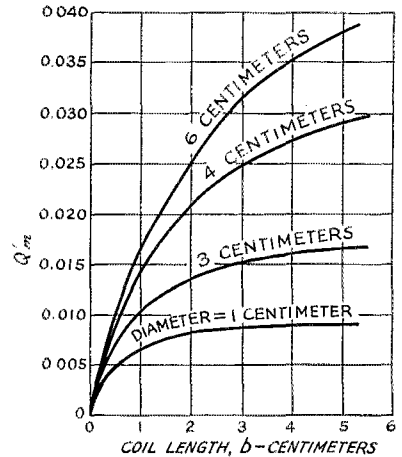
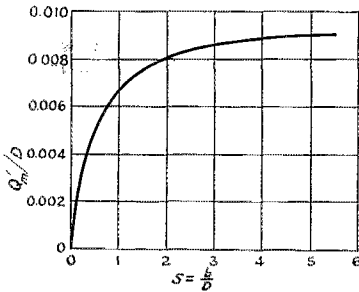

Fig. 4—Plot of equation (2), showing the variation in Q with length and diameter of coil, when the wire size is kept at the optimum value.
Fig. 5—Plot of equation (2) showing the variation in Q with the length/diameter ratio, when the wire diameter is optimum and the coil diameter is constant.
provided that the wire size is maintained at the optimum value. This equation is plotted in Figs. 4 and 5. Fig. 4 illustrates how the Q varies with length and diameter of the coil and Fig. 5 shows the variation in Q with the length/diameter ratio for a constant coil diameter. In the derivation of this relationship the effect of radiation was neglected and consequently equation (2) holds only when the maximum coil dimension is very small compared with the wavelength at which the coil is to be used.
It appears from equation (2) and from Fig. 4 that, when no economic limit is placed upon the coil dimensions, the Q increases as the diameter and length of the coil are increased. For a constant diameter of coil the Q increases with increasing coil length, but the increase is less rapid as large values of b/D are obtained. If the b/D ratio is kept constant, the Q increases directly as the diameter of the coil.